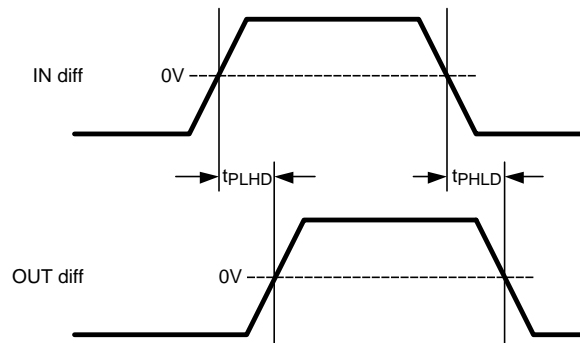

Figure 4. Propagation Delay Timing Diagram
| t PLHD                     | Differential Low to High Propagation Delay                 | Propagation delay measurement at 50% V OD between input to output, 100 Mbps (Figure 4), (4) |                        | 240        |                        | ps                |